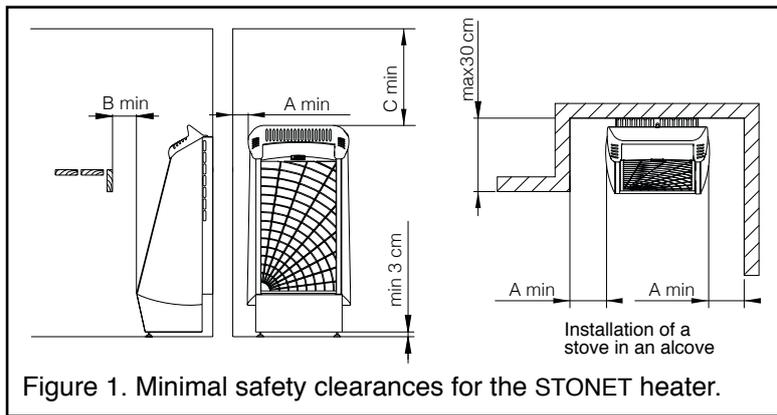

Figure 1. Minimal safety clearances for the STONET heater.
**) See figure 1
- The heater can also be installed into a wall recess, see figure 1.